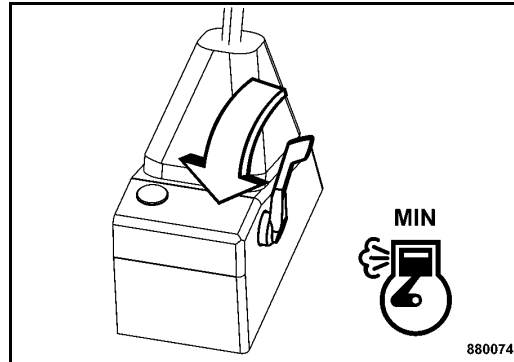

Fig. 55
- Set the throttle lever (Fig. 55) to position "MIN".